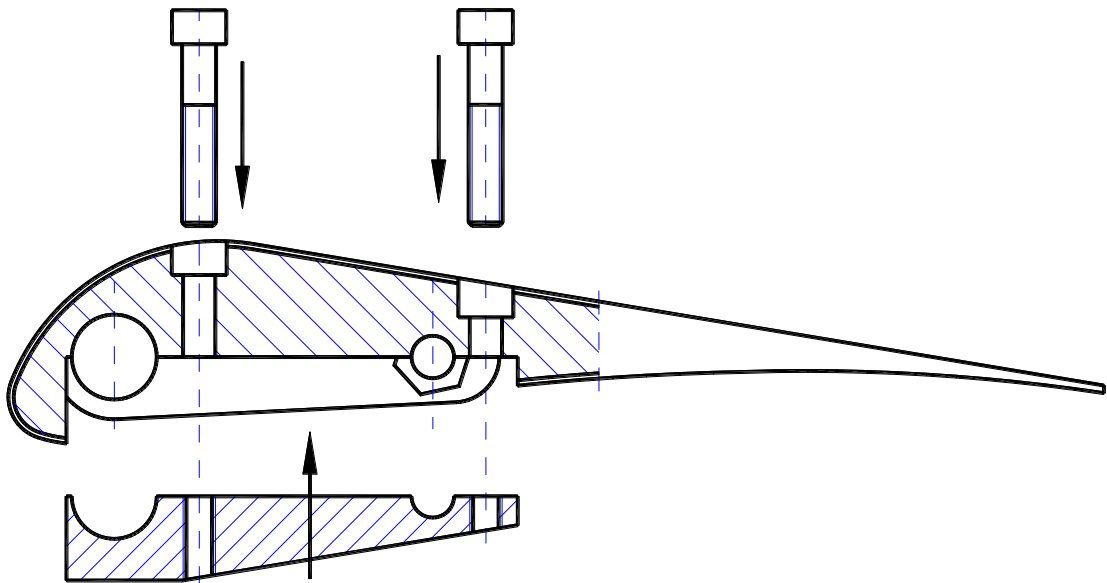

Fig. 8-3 Flaps drive connection
- e) Flaps drive is to be connected by a clamping ring secured with bolts. Prior to connecting the flaps drive, set the flaps actuator as for retracted flaps. Bolts are to be screwed in using LOCTITE 262 fluid. They must be secured with cotter pins from the bottom (Figure 8-3)